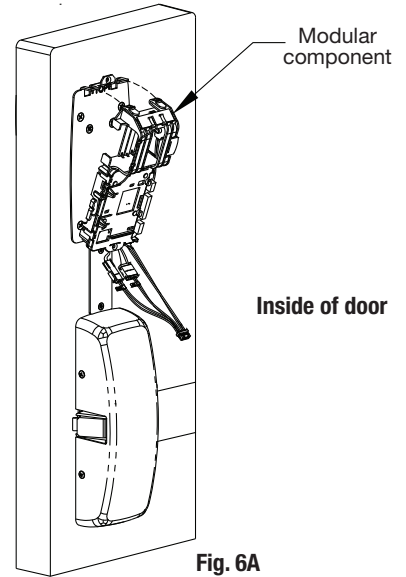

Fig. 6A
1. Insert bottom of component assembly first (Fig. 6A).